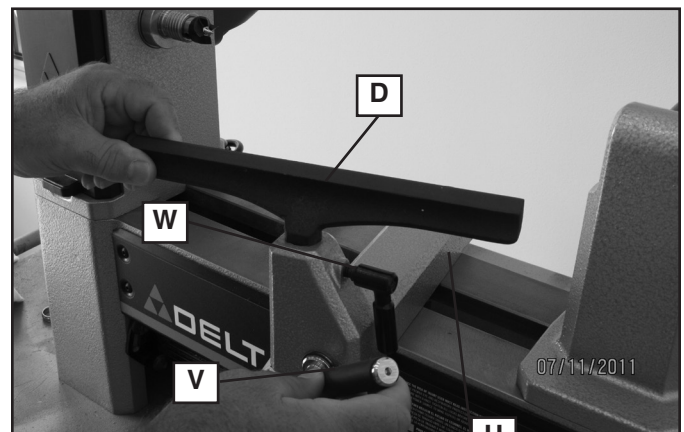

Fig. 13
To adjust the tool rest base (U) Fig. 13, loosen the tool rest base locking lever (V) and adjust. The tool rest base can be positioned side to side, forward and backwards or rotated as desired. Once in position, securely lock the base with the lever (V).